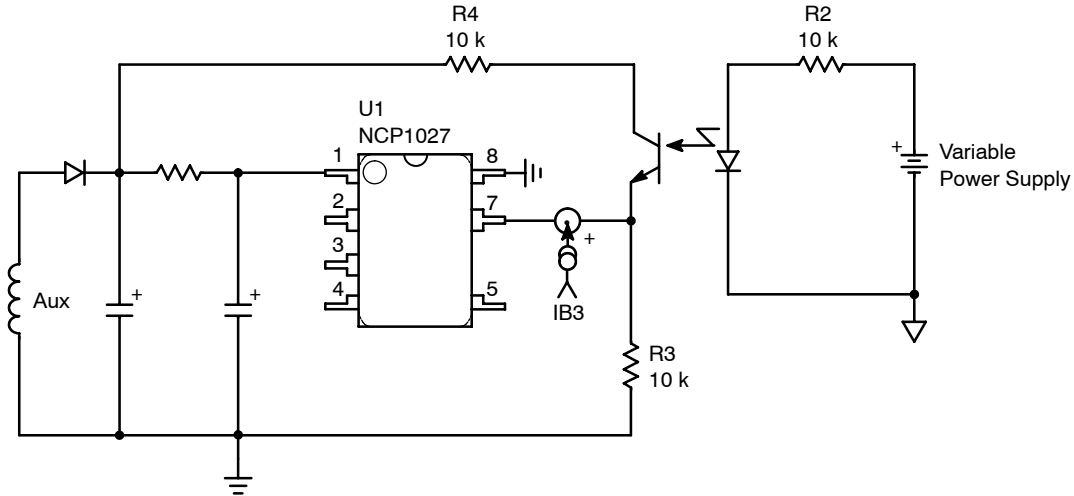

Figure 3. An isolated way to safely inject current into pin 7 at high line.
1. Configure your working power supply as suggested by Figure 3 or 4. These figures are purposely simplified for ease of understanding of the added circuitry. Figure 3 represents the safest way to run the measurement as the dc power supply injects current via an optoisolator without sharing the converter's ground. An amp-meter is inserted to read the current I_{b3} . Leave the dc bias to zero for now.